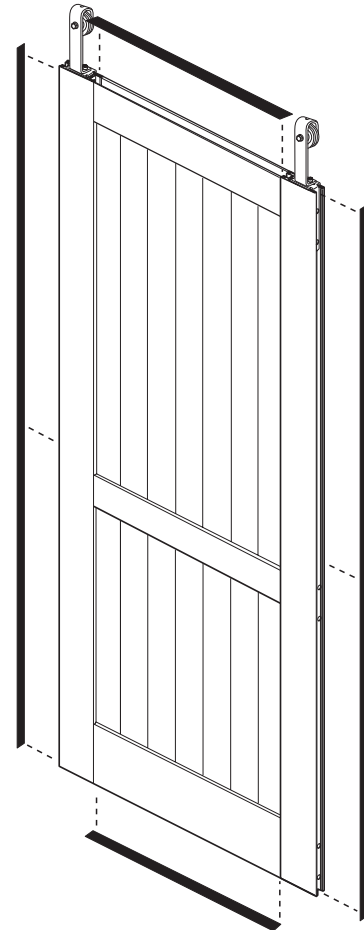

Figure 14
Snap the 2 side finishing strips (M) into place. Snap the top and bottom strips (N) into place. See Figure 14.